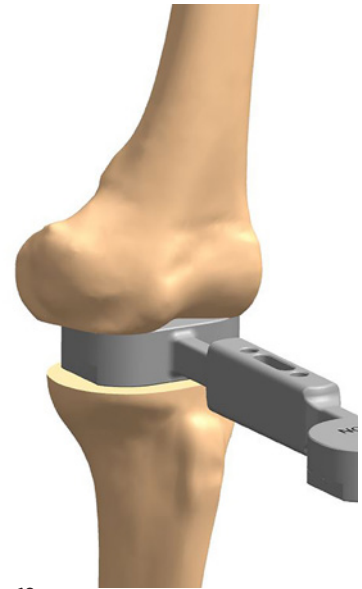

Figure 18
1. The 9mm end of the Extension Spacer Block should easily insert into the extension gap. (Figure 18).